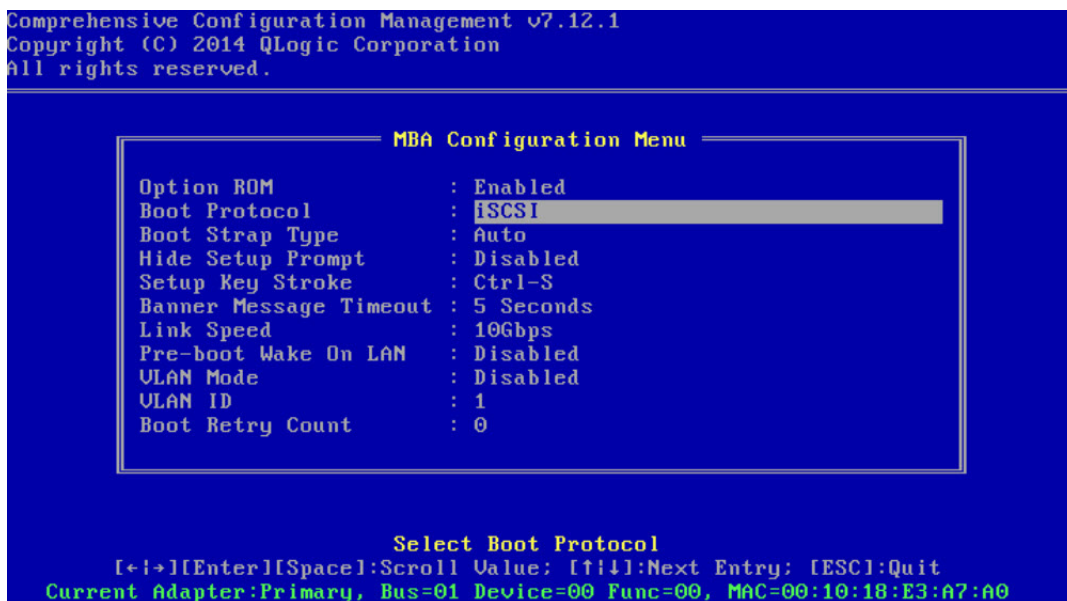

Figure 6-1. CCM MBA Configuration Menu
- b. Select **MBA Configuration** to view the **MBA Configuration Menu**, as shown in Figure 6-1.